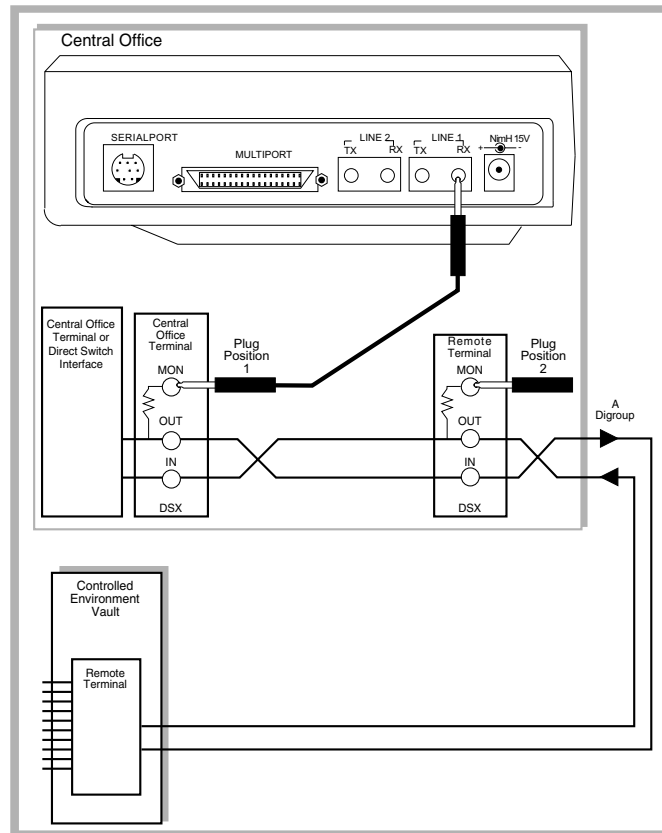

Figure 184 Monitoring the SLC Data Link
2. Connect the SunSet T10 to the circuit as shown in Figure 184, Plug Position 1.
5. Reposition the plug into the remote terminal monitor jack. (Plug Position 2 in Figure 184). Observe:
2. Connect the SunSet T10 to the circuit as required for testing. Refer to Figures 184, 185, and 186. More than one SunSet T10 may be necessary because of the need to transmit and receive maintenance commands on the A digroup while performing bit error testing on another digroup. Possible tests to perform include: